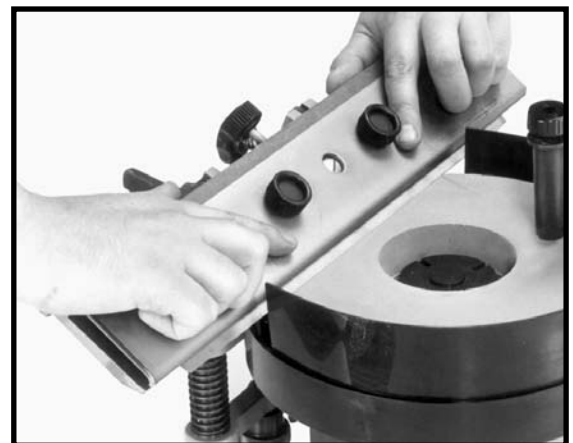

Fig. 57
8. Fig. 57, illustrates a typical grinding operation of a jointer or planer knife.